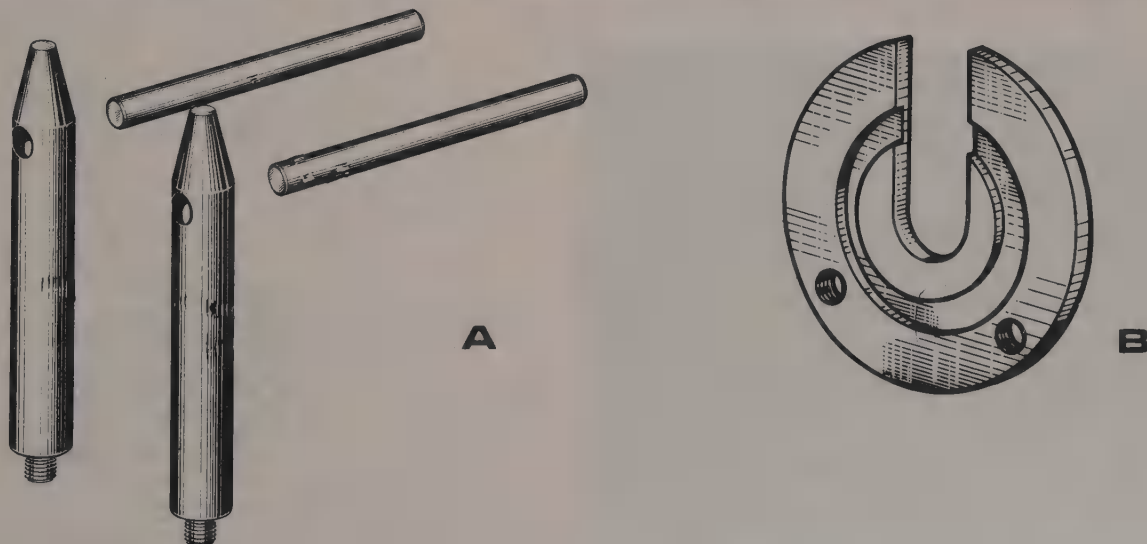

Fig. 7.2 Special tools required when removing the propeller shaft on Saloon models (Sec 3)
- 1 Before commencing work, it is recommended that the special tools shown in Fig. 7.2 are obtained, or alternatively, fabricated. The guide pins (Peugeot tool 0906 ZZ) are necessary to support the rear crossmember, but long bolts and washers may be used instead. The plate is necessary to support the propeller shaft within the link tube, and may be made from plywood about 20 mm (0.8 in) thick.